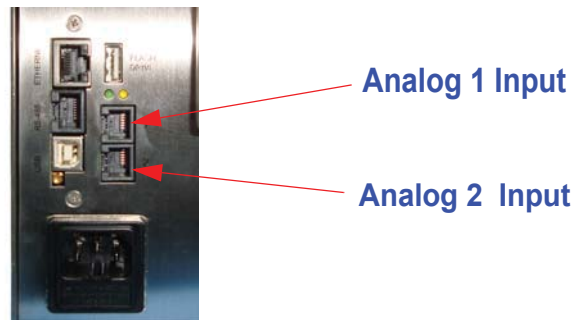

Figure 6-5 Analog Channel Connectors
9. If analog sensors were ordered, plug them into the connectors labeled 1 or 2 on rear of the instrument (see Figure 6-5).